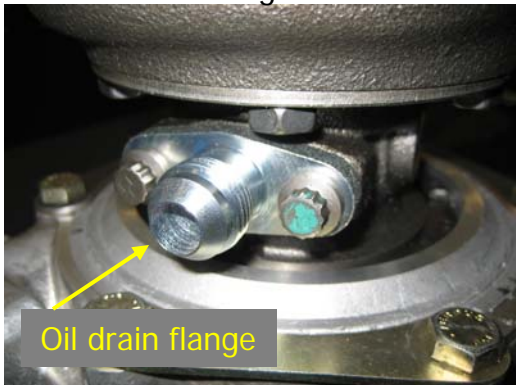

Fig.8
3. On both turbos install the oil drain fitting using the two (2) 12-point bolts supplied (Fig. 8). Make sure the o-ring is in place. A spare o-ring is provided in the gasket kit.